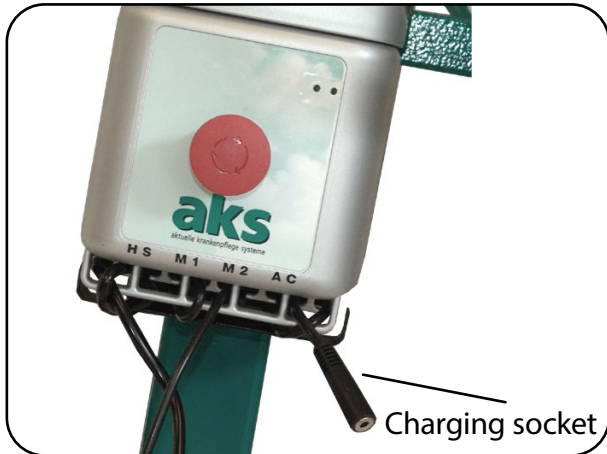
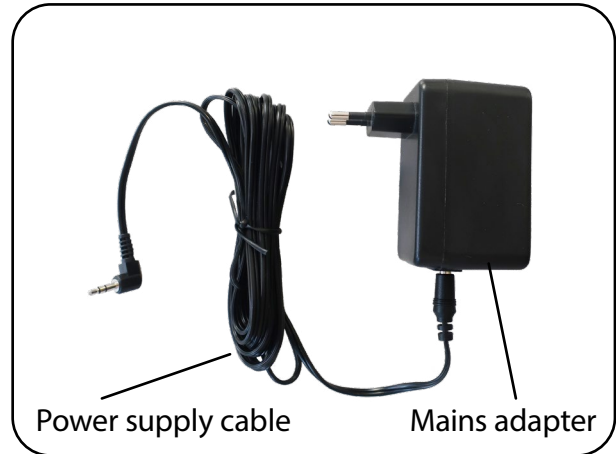

Fig. 8.7.05 – Control unit with charging socket
Fig. 8.7.06 – Mains adapter with power supply cable
The battery pack can only be charged using the supplied mains adapter (Fig. 8.7.06) directly on the control unit or using the wall charging station available as an accessory (see chapter on **Accessories/combinations**). The charging socket is located on the underside of the control unit (Fig. 8.7.05).
Only plug the mains adapter into the mains socket in the suspended position (Fig. 8.7.06). This prevents kinks from developing in the power cable.
2. Connect the mains adapter via the power supply cable (Fig. 8.7.06) to the charging socket on the control unit (Fig. 8.7.07).